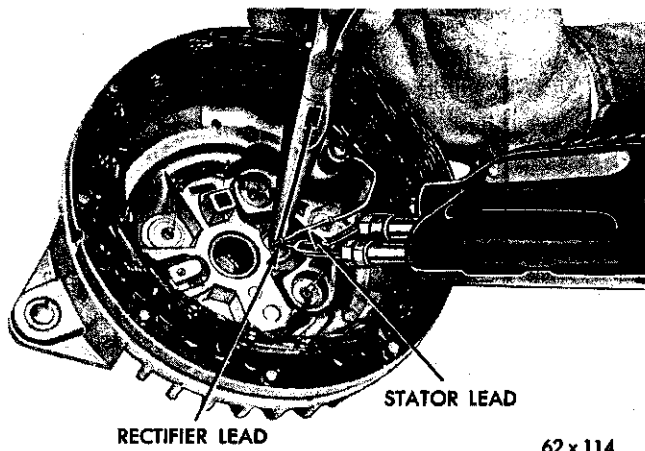

Fig. 33—Soldering the Rectifier and Stator Leads
(3) If the stator leads were disconnected at disassembly; clean the leads and mate the stator lead with the rectifier wire loop and bend the loop snugly around the stator lead to provide a good electrical and mechanical connection. Solder the wires with resin core solder. Hold the rectifier lead wire with pliers just below the joint while soldering (Fig. 33). The pliers will absorb the heat from soldering and protect the rectifier.